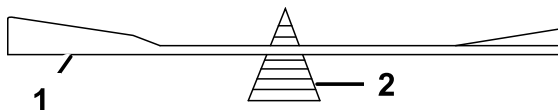

Figure 67
2. Check the balance of the blade by putting it on a blade balancer (Figure 67).